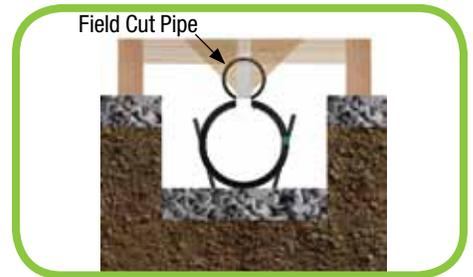

Figure 7
6. When placing Duraslot pipe, it is highly suggested to place the concrete simultaneously to both sides of the slot. To help accomplish this, take a 4" or 6" (100 or 150 mm) , 4' (1.2 m) length of scrap plastic pipe, field cut a 2½" (64 mm) wide strip out and saddle it around the slot riser. Place the concrete directly over the saddled pipe. This will allow the concrete to distribute evenly to both sides. Move the pipe as you continue to place concrete down the run. (Figure 7)